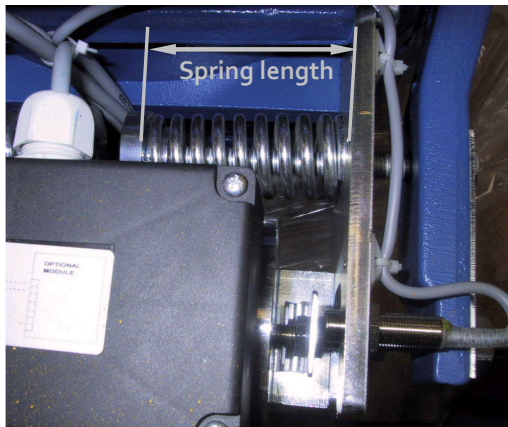

Fig. 10
3. Spring pressure preset of spring length **L** between the two surfaces on 88mm, is adjusted during the TÜV field inspection (see Fig. 10).